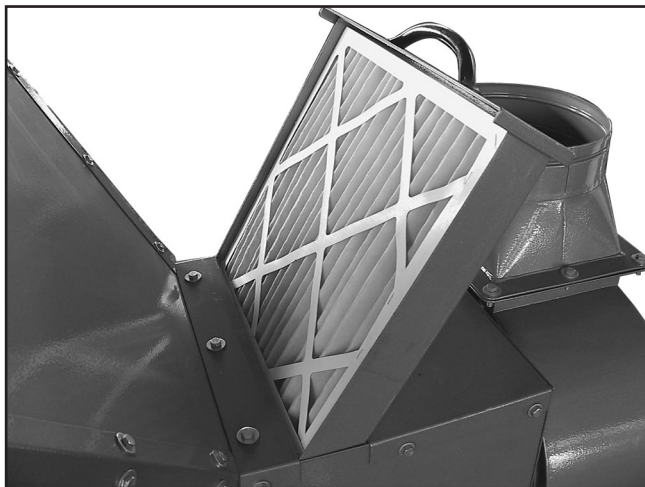

Figure 21. Third stage filter.
3. Insert the third stage filter into the filter drawer as shown in **Figure 21**.